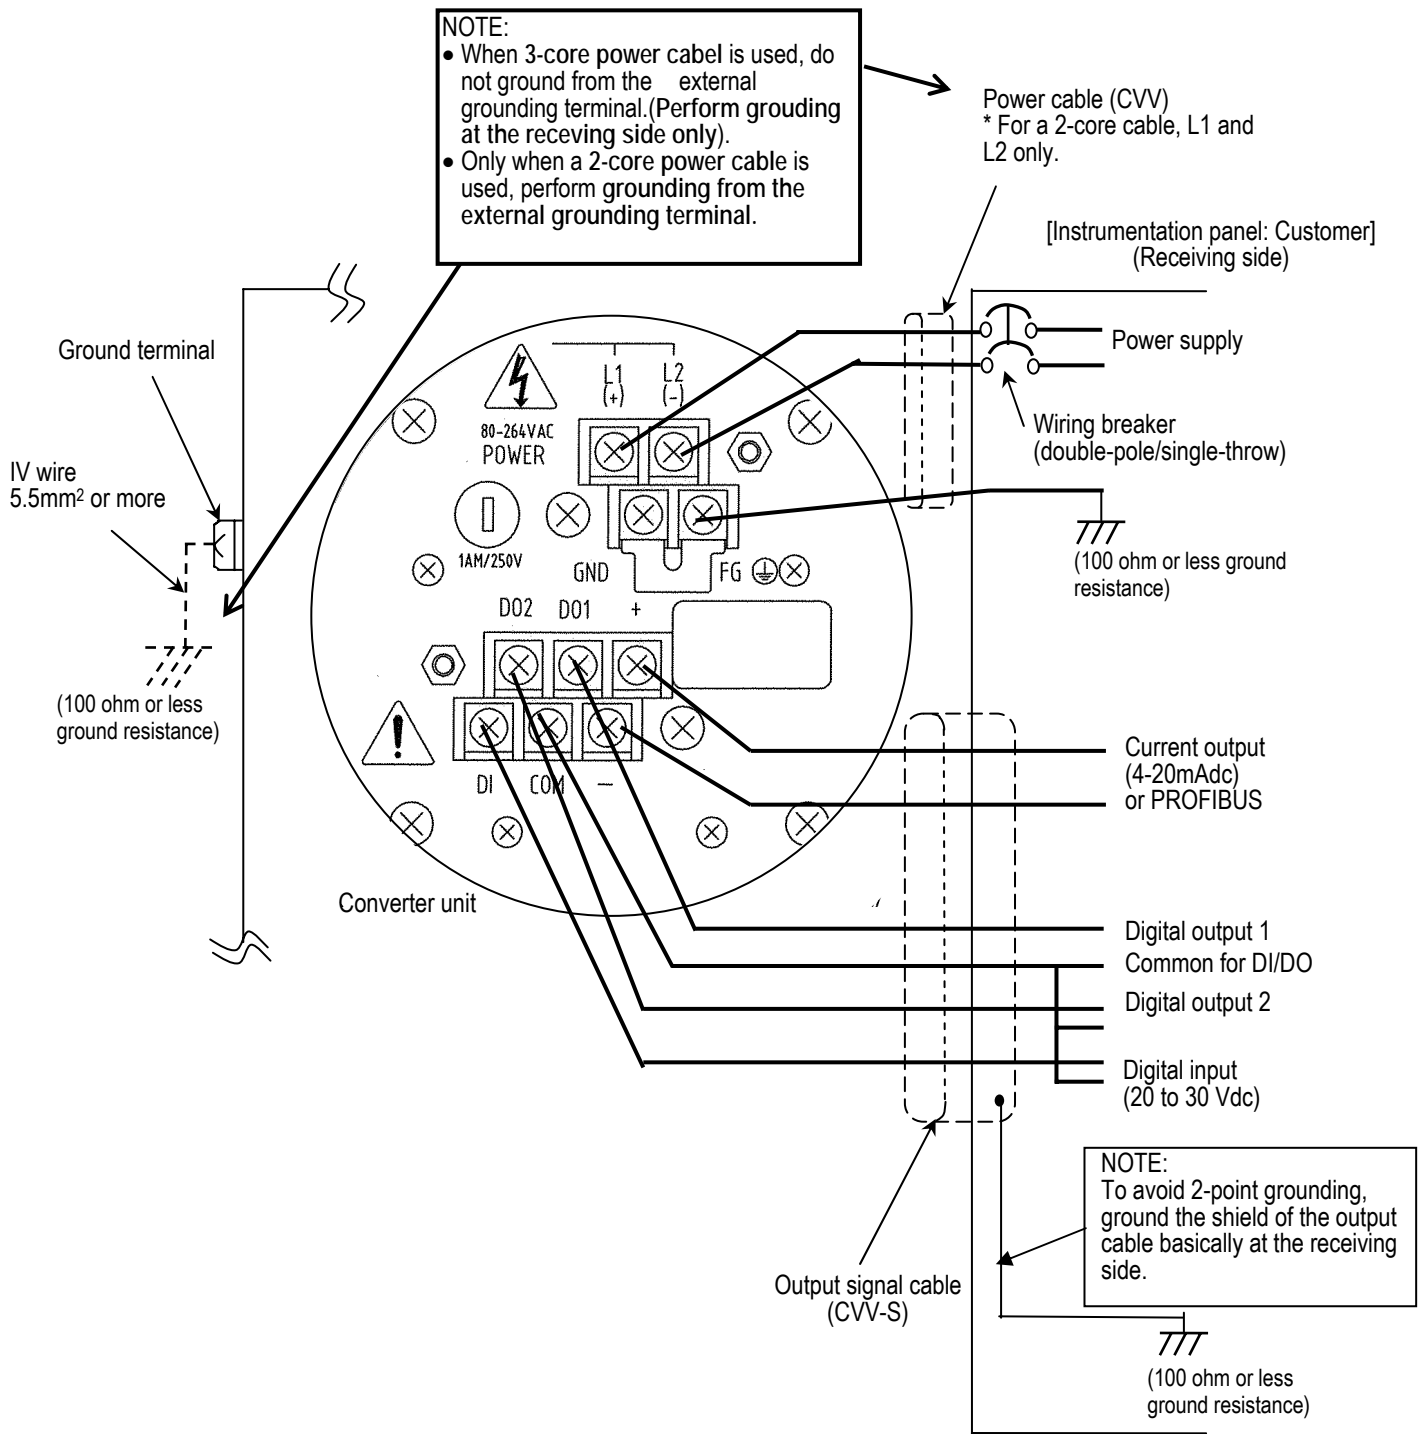

Figure 5.1 External Wiring Schematic Diagram
The terminal board connections of LF516/LF546 Flowmeter are shown in Figure 5.1. Proceed with wiring as described in Section 5.4, "Wiring Procedure."
* Use a heavy copper braid or wire (cross-sectional area **5.5 mm² minimum**) to ground the terminal and make it **as short as possible** as shown in Figure 5.1 for **grounding**.